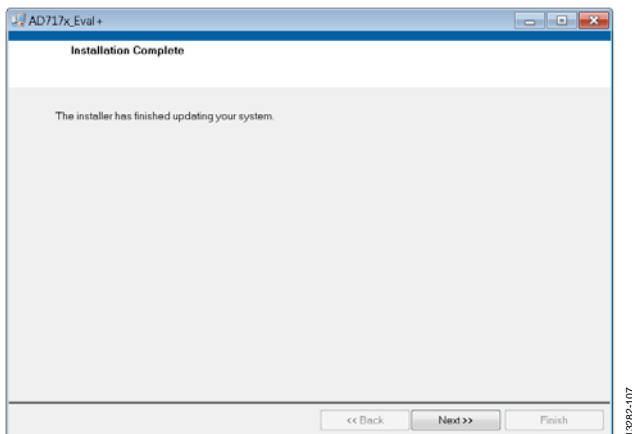

Figure 7. **Installation Complete** Window
7. The message shown in Figure 7 appears when the installation is complete.